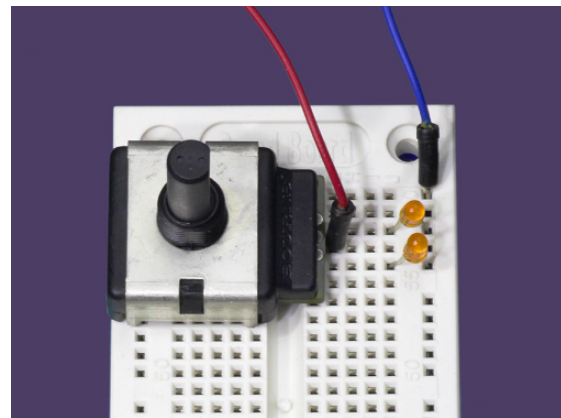

Figure 33-3. Many encoders, such as this one, can be plugged into a breadboard for testing.
0.1” apart and can plug directly into a breadboard, as shown in Figure 33-3.